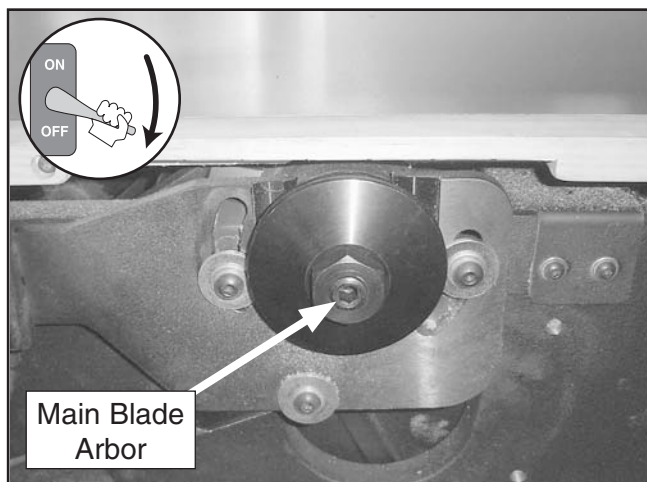

Figure 33. Main blade arbor components.
18. Slide the table all the way forward to access the blade arbor and pull open the blade guard (see **Figure 33**).